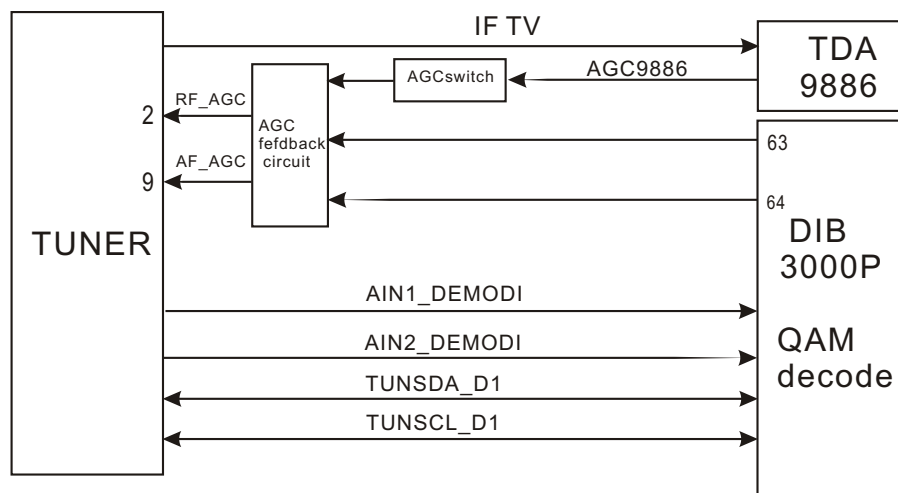

Figure 3.2.16.1 TUNER control circuit/AGC control circuit
4.DVB power supply and switch control circuit is shown in figure 3.2.16.2 :